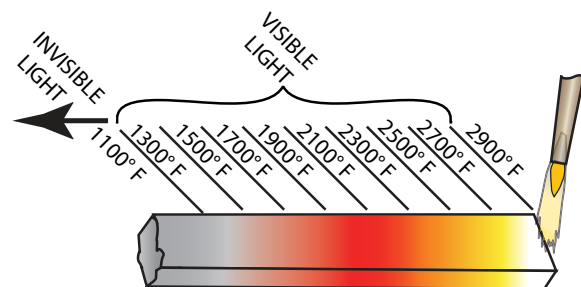

FIGURE 27-4 Visible and invisible light.
As matter becomes warmer, its atoms vibrate at a higher frequency. As matter cools, the vibrating frequency slows. This vibration of the atoms is what gives off the infrared light that comes from all objects that are above absolute zero. When the object becomes hot enough, the vibrating frequency of the atoms gives off visible light. We see that light as a dull red glow when the surface reaches a little above 1000°F (540°C). As the surface becomes even hotter, we can see the color light it gives off change until it glows "white hot," Figure 27-4.
4. Compare the colors you saw with the colors shown in Figure 27-4.